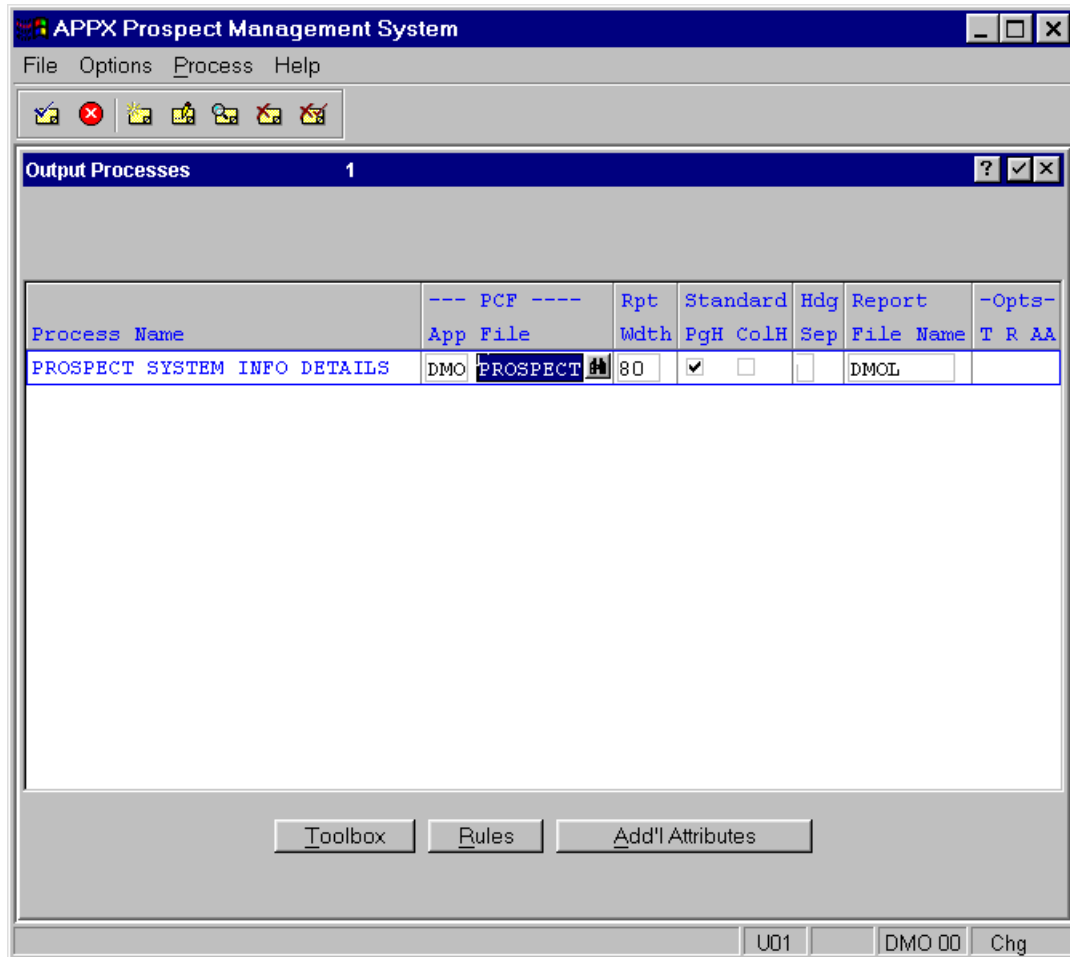

Figure E4.10 – Output Processes
- In output processes, as with input processes, there are different levels within the process: Process level, Frame level and Image level. At the **Process level** (*Figure E4.10*) you can see that the PCF for the newly generated output is **PROSPECT** and the Report Width is 80 columns. The Standard Page Heading (**Std PgH**) box is checked which means that this report will use standard APPX page headings. You can clear this box and define your own page headings, if you wish. The Standard Column Headings (**Standard ColH**) box, on the other hand, is not checked and you will see when you move down to the Frame level that APPX has generated a frame to define the column headings for the report. Note also that the report has automatically been assigned a print File Name of DMOL (DMO Listing). When the report is run, APPX will append a unique sequence number to the File Name, and the report will be listed in the print queue under that name and unique sequence number (or on disk if stored).